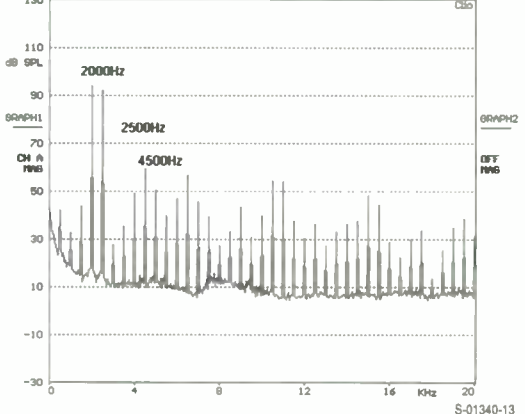

FIGURE 13: Midrange intermodulation distortion.
I evaluated midrange intermods with 2 and 2.5kHz signals at an SPL of 90dB at 1m (Fig. 13). The largest intermod was 1.5% at 4.5kHz. However, the entire spectrum is rich in both intermods and harmonics. Again, distortion performance is poor relative to other system tests reported in *SB*.
1. Most of the coloration I heard is not evident on the axial response (*Fig. 1*). But that resonant and distorted violin note agrees with the 8kHz peak, the long resonance at 8kHz on the CSD (*Fig. 3*), and possibly *Figs. 13* and *14* (midrange and tweeter IMD).